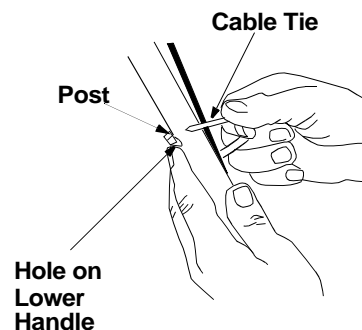

Figure 3
- Insert post on cable ties into holes provided on the lower handle. Pull the cable tie tight and trim the excess. See Figure 3.